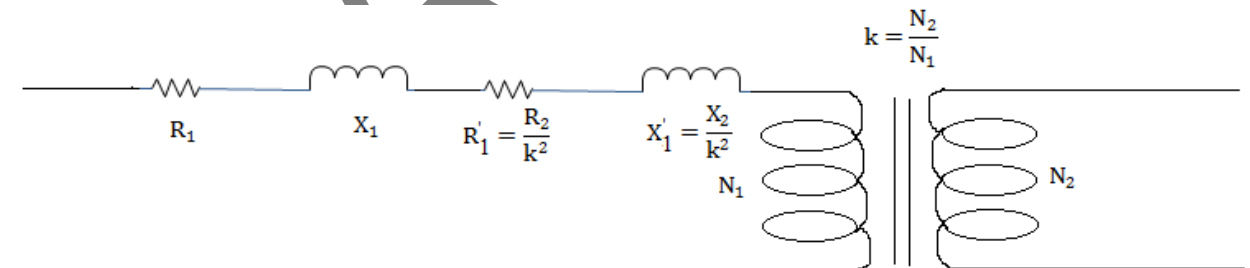

Fig. 8.10
4.12.1 **Equivalent circuit referred to primary:** In this case parameter of the secondary side is shifted to the primary side as shown in fig. 8.10. We know when the parameter of the secondary is shifted to primary they will be divided by k^2 .